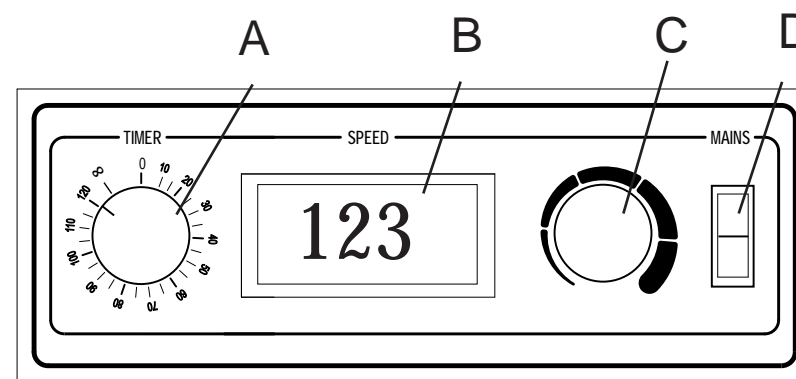

FIG 1.1
1. When loading and unloading the shaker platforms, turn the speed control to a slow setting and switch off the mains switch (switch "D" - FIG 1.1 & 1.2).